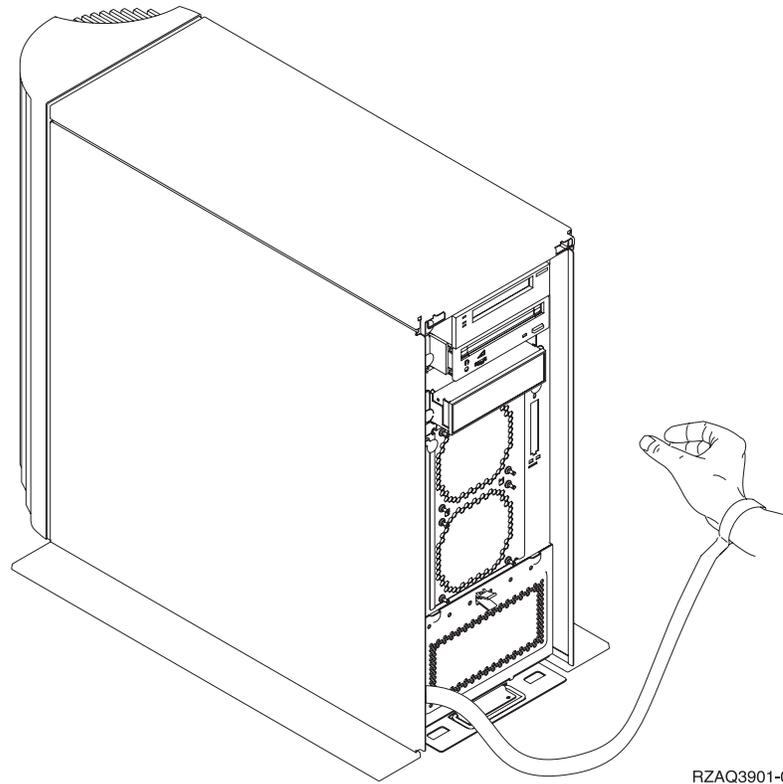

Figure 3. Attach Wrist Strap
- 9. Attach the disposable wrist strap to prevent electrostatic discharge from damaging a device. Figure 3 on page 5 shows an example of where to attach the adhesive part of the foil to an unpainted surface.